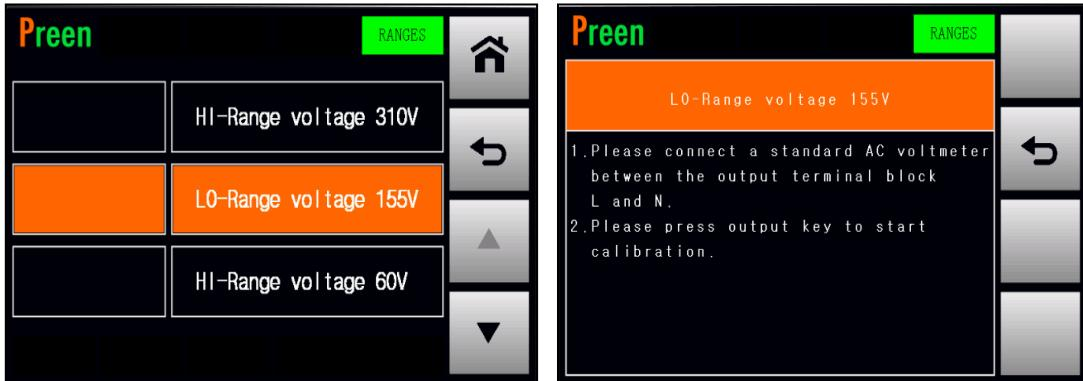

Figure 4.7 Enter into the page which calibrates the LO-Range voltage 155V
1. Press the item **LO-Range voltage 155V** repeatedly to enter into the page which calibrates the LO-Range voltage 155V (refer to Figure 4.7).